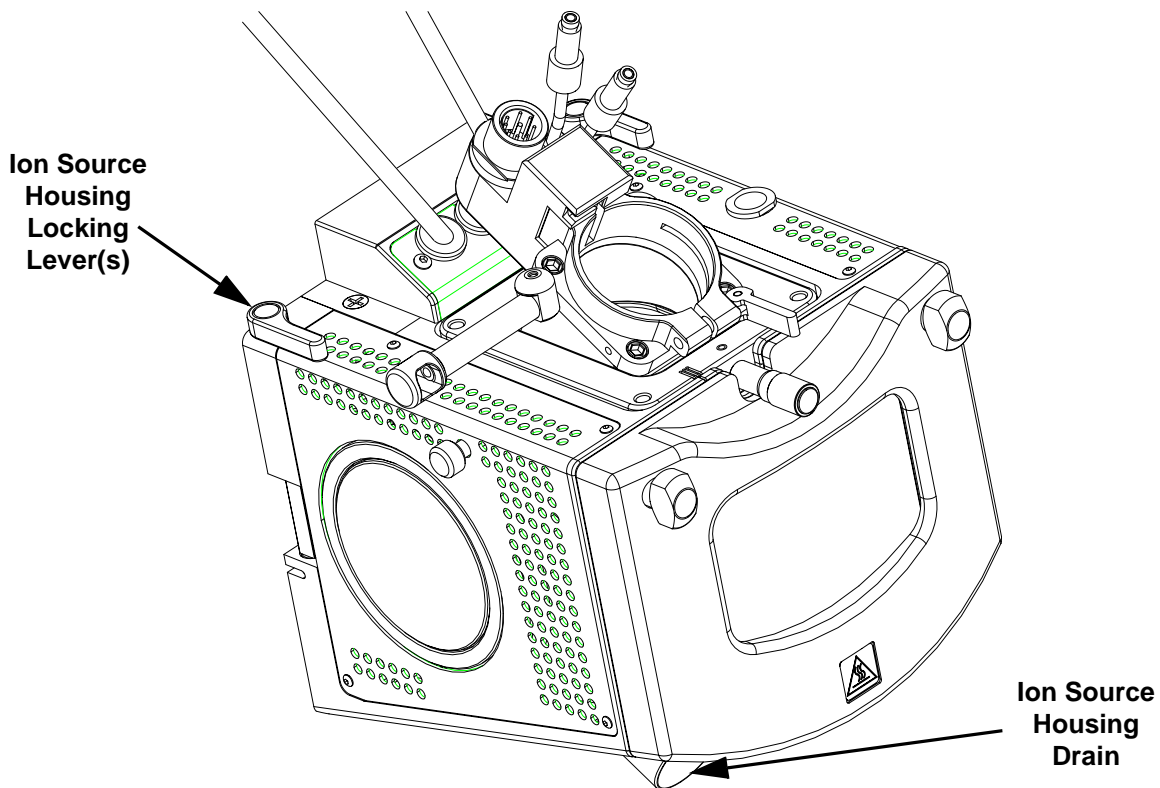

Figure 4-2. Ion Max ion source, showing the locking levers and drain
1. Remove the drain tube from the ion source housing drain. See Figure 4-2.